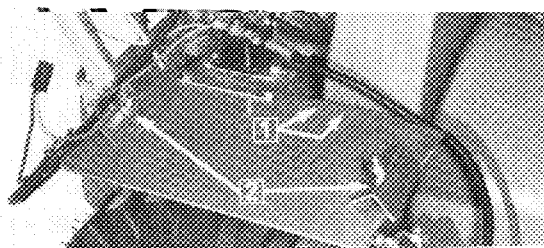

Figure 8
16. Secure positive battery cable to holes in battery mounting plate with tie wrap (Fig. 8).
17. Loosely install battery hold downs to battery mounting plate with a capscrew (5/16 x 18 x 2.00) and locknut on each side (Fig. 8).